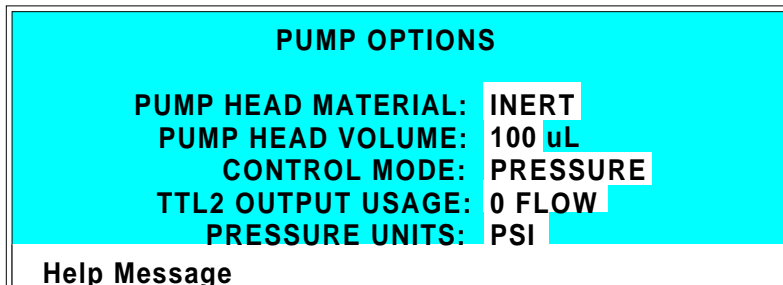

Figure B-6. Pump Options Screen
1. Open the GP40 **PUMP OPTIONS** screen and set **TTL2 OUTPUT USAGE** to **0 FLOW** (see Figure B-6).